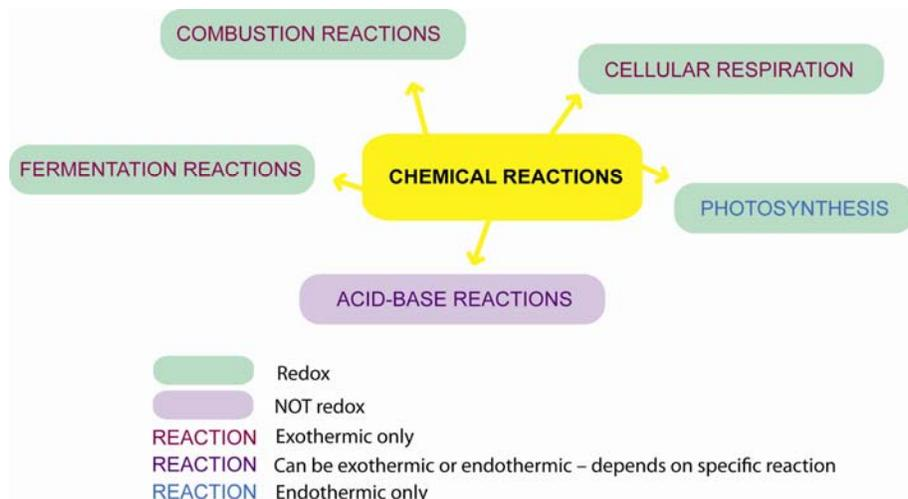
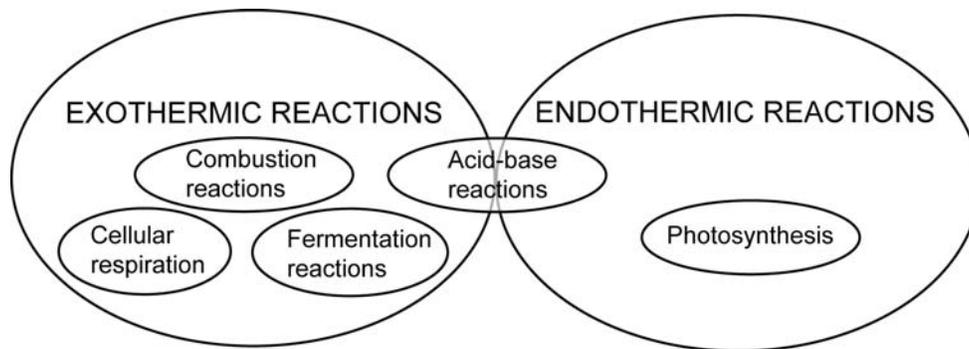

Figure 1 One representation of the classes of chemical reactions outlined in the STELR Chemistry Program, with a key
Figure 2 One possible Venn diagram
Figure 1 on the next page may be a useful flow chart for showing the information in the student booklet in a more visual way. However, it is just one way in which the information may be represented. The teacher may choose to extend this chart to include other classes of reaction with which the students are familiar. Figure 2 shows more basic information in the form of a Venn diagram. This does not refer to redox reactions.
- 1 Figure 2 shows one possible solution.